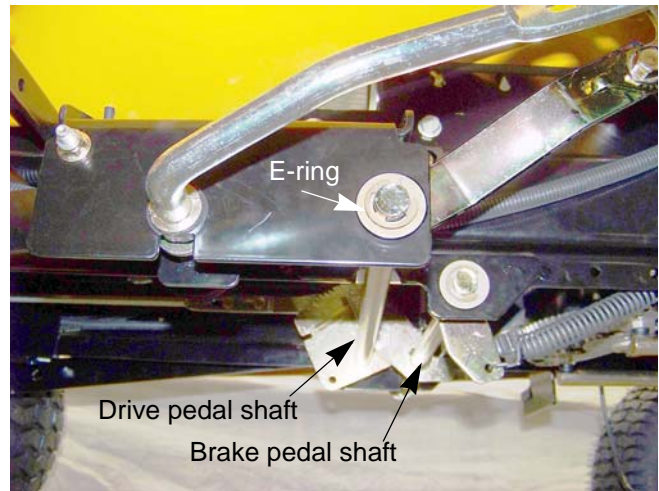

Figure 5.12
- 5a. Remove the E-ring, bushing and washers from the right side of the forward drive pedal shaft. See Figure 5.12.